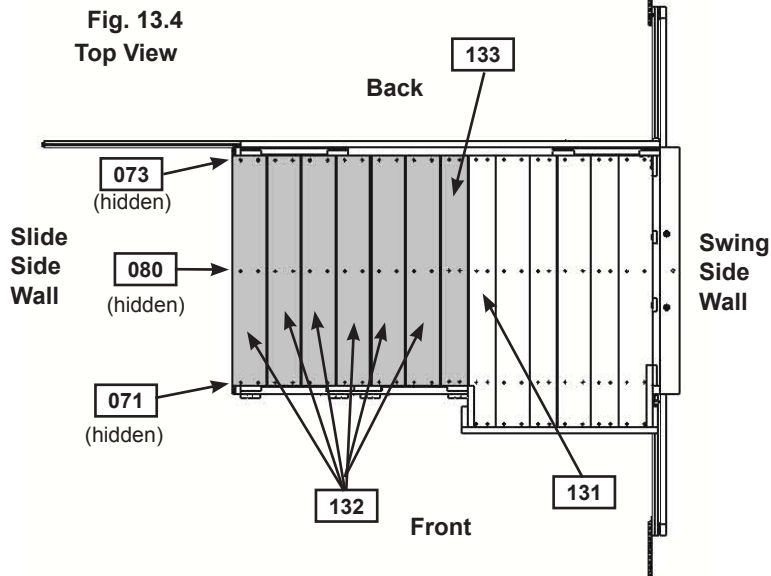

Fig. 13.3
C: Next to (131) Slidenest Floor A place 1 (133) Floor A followed by 6 (132) Floors. Make sure all boards are evenly spaced and the last (132) Floor is flush to the front of (060) SL Half Panel. (fig. 13.3, 13.4 and 13.5)